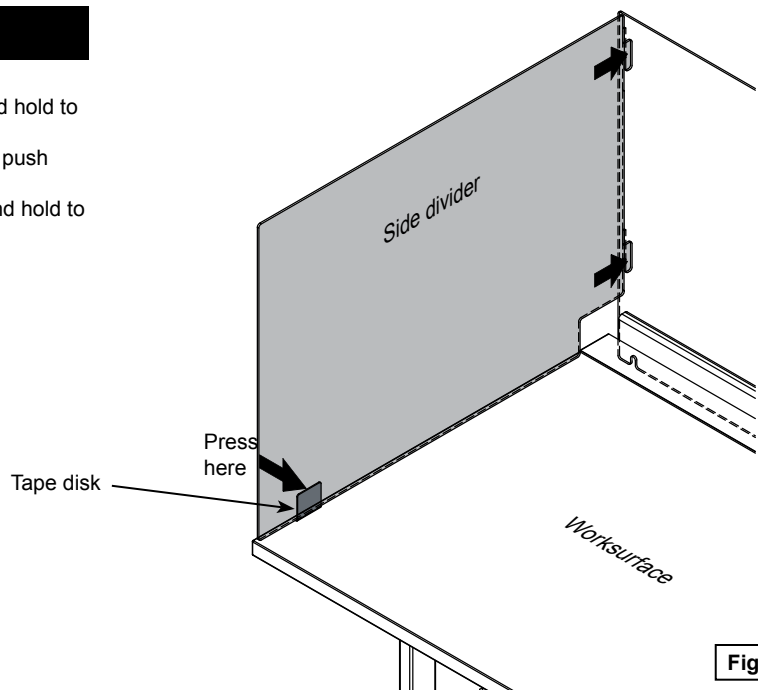

Figure 3
1. Apply one tape disk to the left-side of the bracket. Press and hold to the bracket for 30 seconds to secure. **Figure 3.**